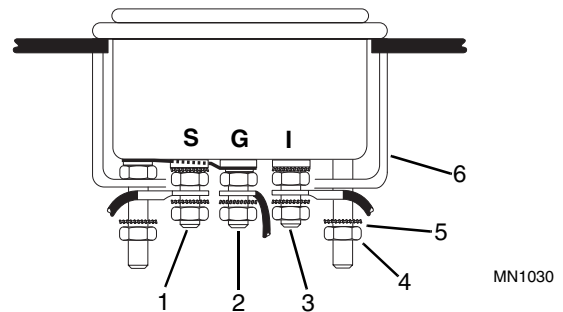

Figure 8-15 Fuel Gauge Wire Connections
3. Tag and remove the wires from the three terminals (Fig. 8-15, 1-3) on the rear of the gauge.
4. Remove two nuts (Fig. 8-15, 4) and external tooth lockwashers (5) that secure the gauge mounting clip (6) to the instrument panel. Remove the fuel gauge.
1. Position the gauge in the instrument panel, and install the mounting clip (Fig. 8-15, 6) on the rear of the gauge. Secure the gauge by installing an external tooth lockwasher (5) and hex nut (4) on each mounting stud.